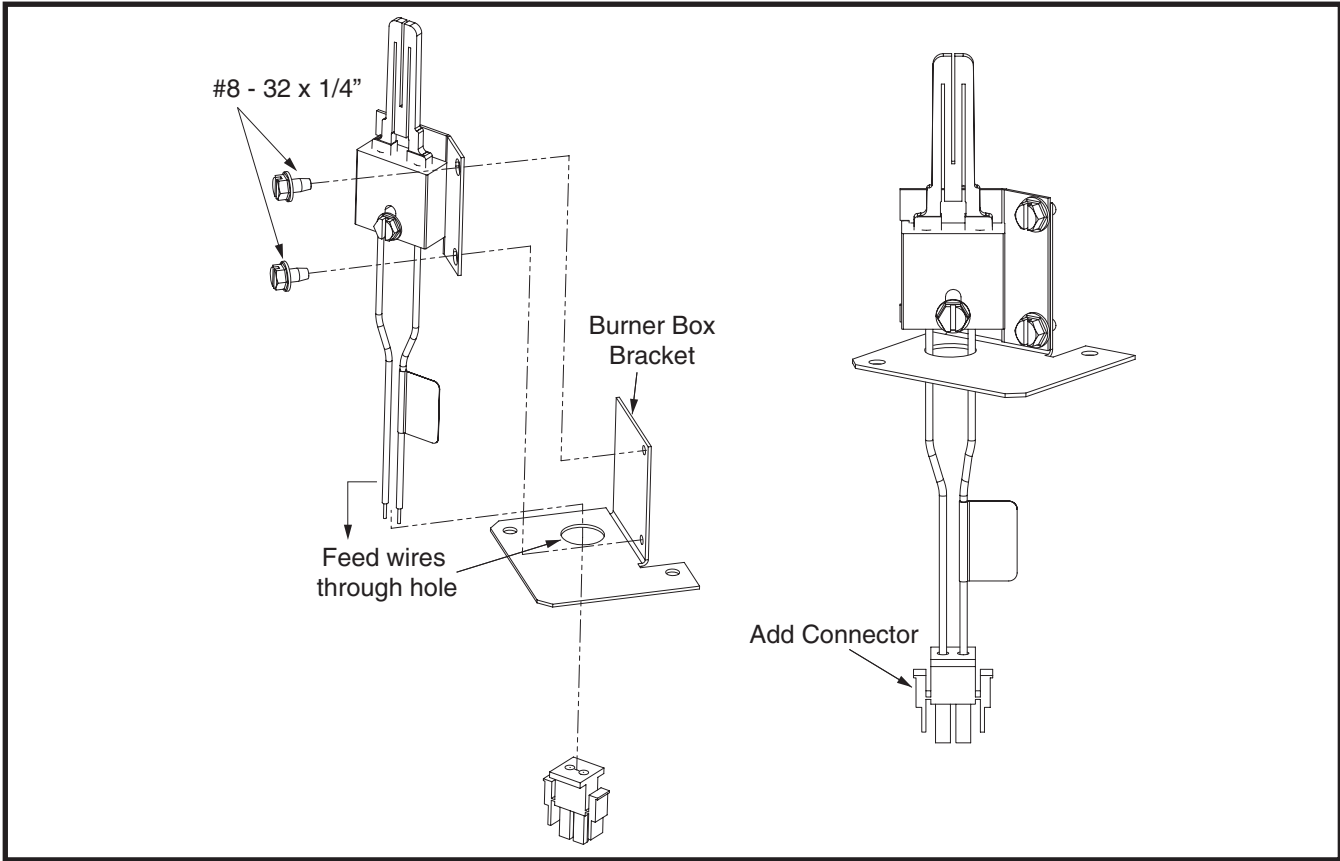

Figure 2. Burner Box Bracket
3. Locate the burner box bracket included in this kit. See Figure 2.
6. Using the (2) #8 - 32 x 1/4” screws, secure the igniter and adapter assembly to the burner box bracket.